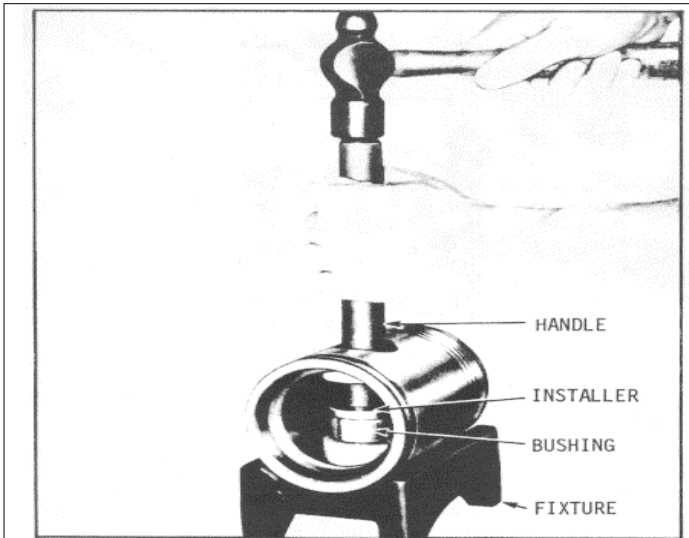

Fig. 6
- (1) Place the piston in the holding fixture J 1513-1 so that the bushing bores are in alignment with the hole in the fixture base.
- (2) Drive each bushing from the piston with bushing remover J 1513-3 and handle J 1513-2 (Fig.6).